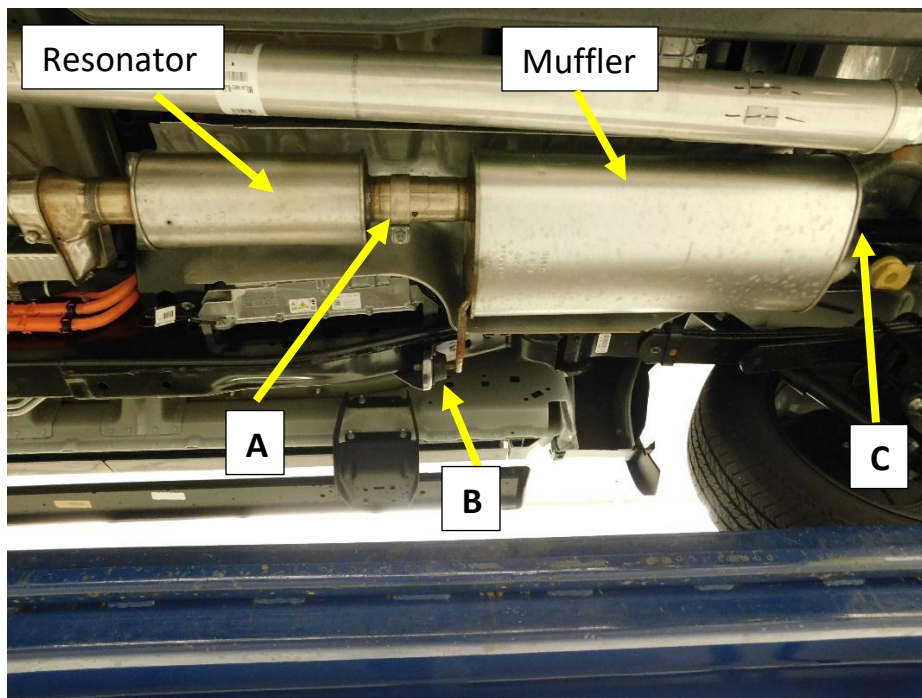

Figure.6
- Loosen the clamp at the slip joint between the muffler and the Resonator **(A)**. **Fig.6**
- Remove the (x3) bolts at the muffler hanger on the frame rail **(B)**. **Fig.6**
- Remove the bolt from the muffler hanger over the muffler and remove the hanger from the cross brace **(C)**. **Fig.6**